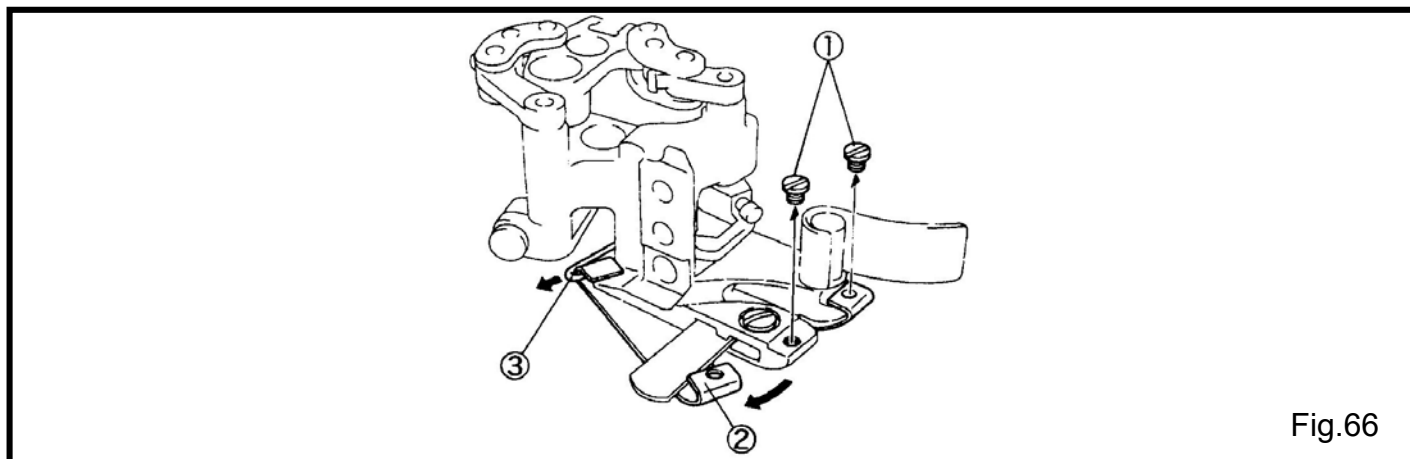

Fig.66
- (1) 拆掉螺絲①。(Fig.66)
- (2) 拆掉壓腳彈片②。
- (3) 移開彈簧片勾③才能拿掉彈簧片②。
- (1) Remove the screw①.(Fig.66)
- (2) Remove the presser foot sprint plates② from the presser foot.
- (3) Remove each plate② from the spring plate holder③.
(Fig.66)
- (1) Reset each presser foot spring plate② with the spring plate holder③.(Fig.66)
- (2) Reset the plates② parallel each other on the presser foot②.
- (3) Tighten the screws① securely.